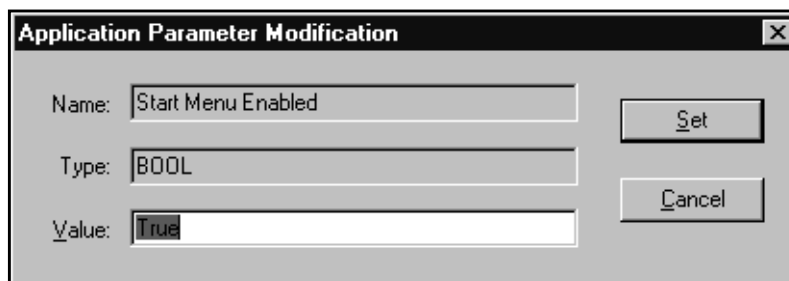

FIGURE 82. Setting Start Menu Enabled to True
- a. Type **true** at the Value command line as shown in Figure 82.